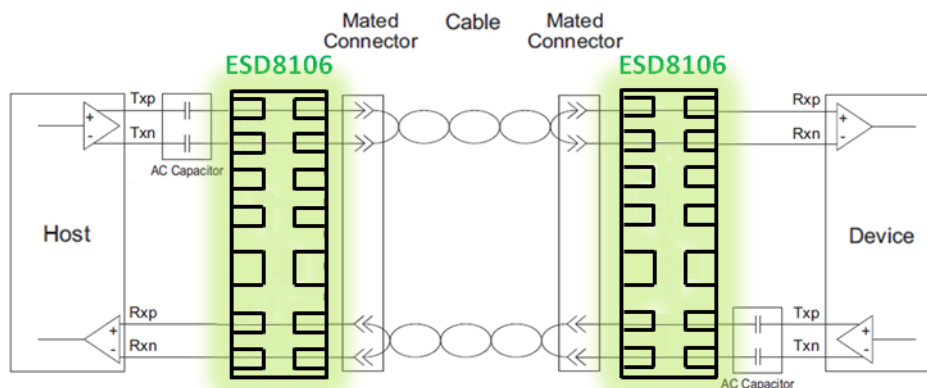

Figure 8. USB 3.0 Connection Diagram
- ♦ In USB 3.0 applications, the ESD protection device should be placed between the AC coupling capacitors and the I/O connector on the TX differential lanes as shown in Figure 8.